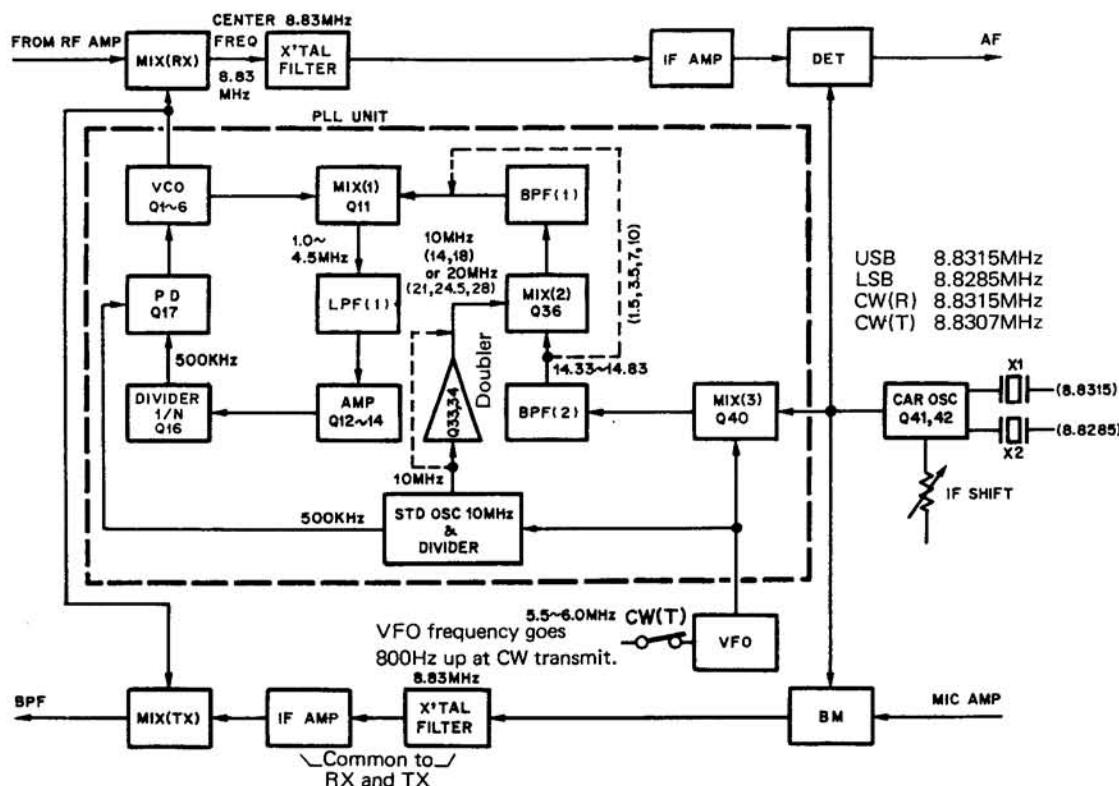
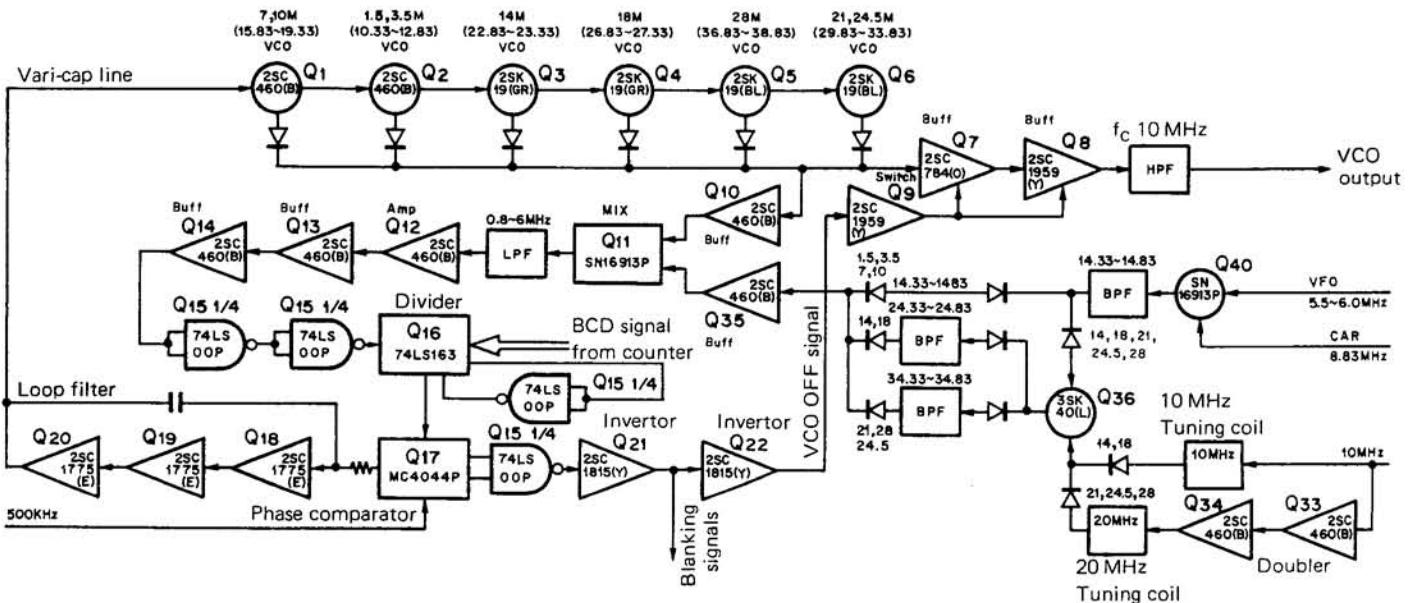

Fig. 1 TS-530 Frequency configuration
Fig. 2 TS-530 PLL circuit configuration
Frequency organization of the PLL circuit is shown in Fig. 1, the circuit diagram in Fig. 2, and frequency organization in other circuits is summarized in Table 4. Please refer to Fig. 1 when reading the following description of PLL circuit operation. MIX (3), a double balanced mixer, mixes the CAR output with the VFO output. MIX (2), which operates for the 18 MHz band and above, mixes either 10 MHz, in the 14 and 18 MHz bands, or 20 MHz, in the 21, 24.5 and 28 MHz bands, with the output of MIX (3) to generate the appropriate frequency needed for each band, as shown in Table 4.
The CAR oscillator consists of a crystal controlled oscillator which uses two crystals : one for LSB and the other for USB and CW. Frequencies generated are shown in Fig. 1. The oscillating frequency can be varied by the IF SHIFT control during reception.